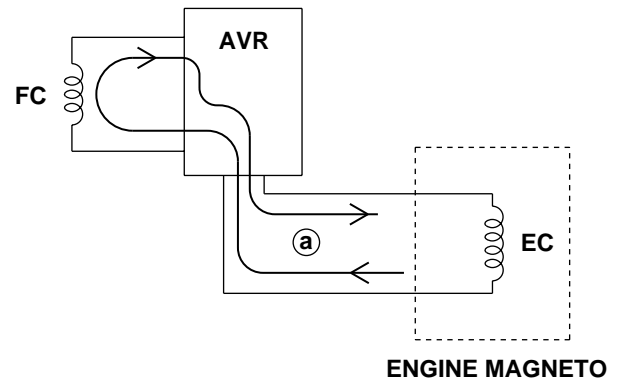

Fig. 4-1
This voltage is regulated by a diode in the AVR to feed a current to the generator field coil. (FC). (See Fig. 4-1)